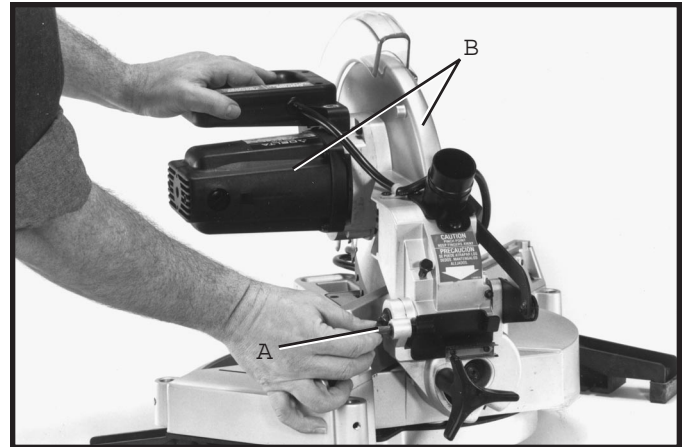

Fig. 4
1 Pull out cuttinghead lockpin (A) Fig. 4, and move the cuttinghead (B) to the up position.